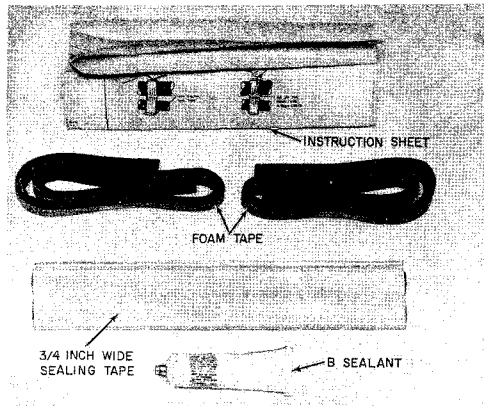

Fig. 8—Kit of Parts D-180995
- (f) **Reentry Kit of Parts D-180995** (Fig. 8) is a kit for sealing splice closure which elimi-